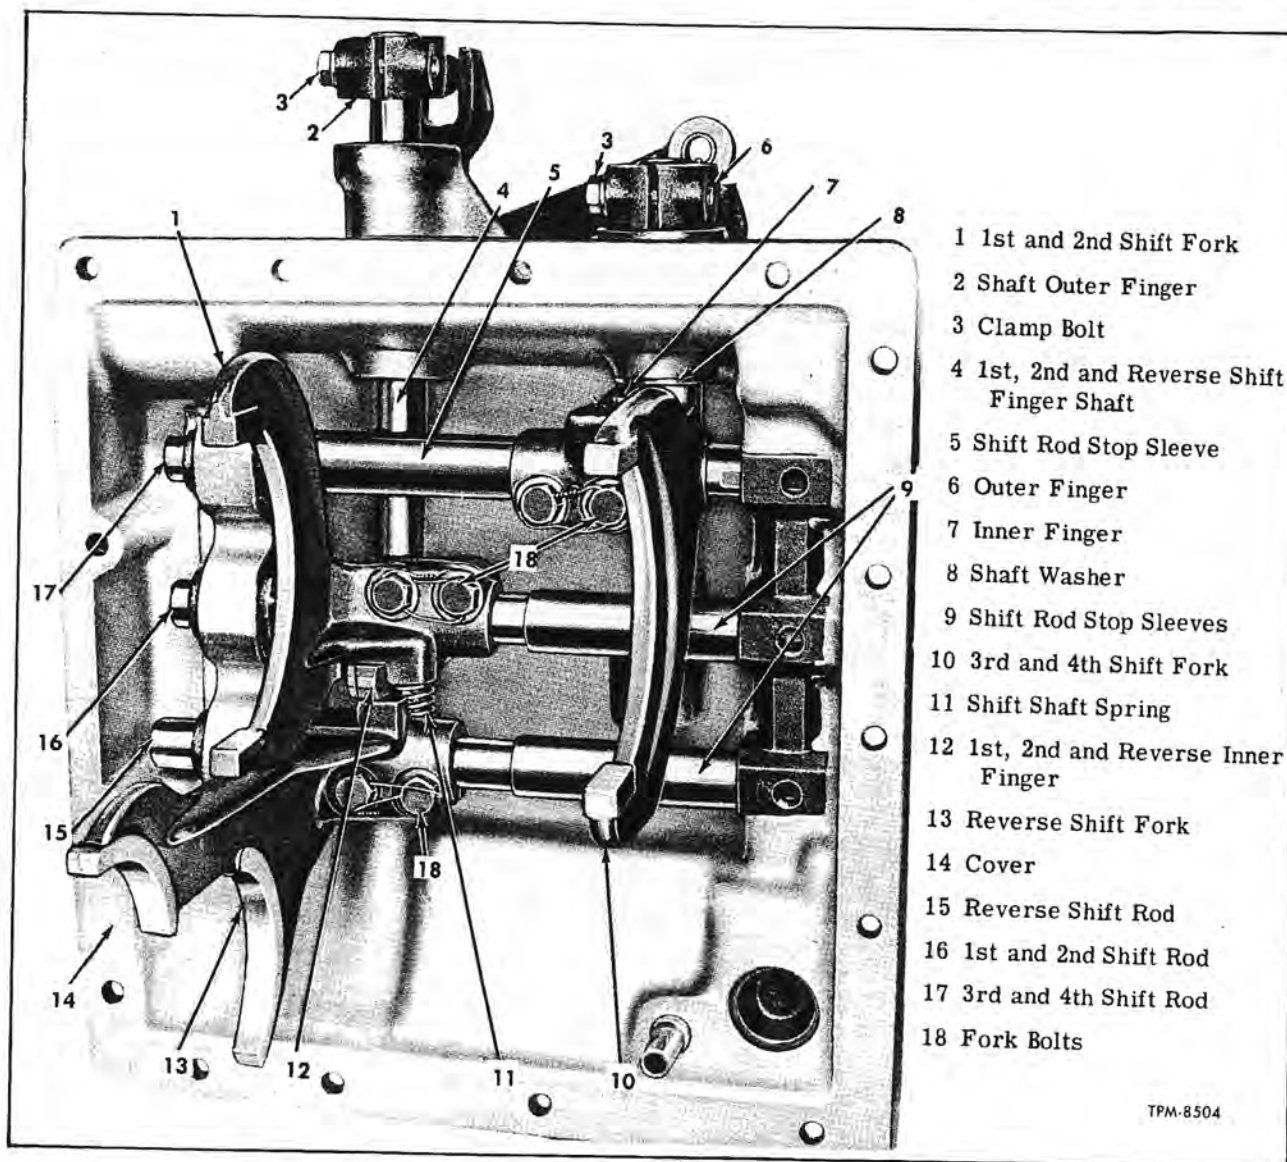

Figure 16—Transmission Cover with Forks and Shifting Mechanism
Key numbers in text refer to figure 16 unless otherwise indicated.
Key numbers in text refer to figure 16 unless otherwise specified.
4. Place one interlock in hole between rods (16 and 17). Install spring, plunger, and poppet ball in center poppet hole, then install 1st and 2nd shift rod (16), stop sleeve (9), and shift fork (1) in position shown in figure 16. Inner finger (12) must engage notch in lug on fork (1). Install and tighten two fork clamp bolts (18) and secure with lock wire.
5. Place one interlock between rods (15 and 16) and move rods (16 and 17) to neutral position (poppet ball engaging center notch), then install spring, plunger, and poppet ball in poppet hole at reverse shift rod. Install reverse shift rod (15) assembling stop sleeve (9) and shift fork (13) on rod as it is moved into place. Install and tighten two clamp bolts (18) and secure with lock wire.